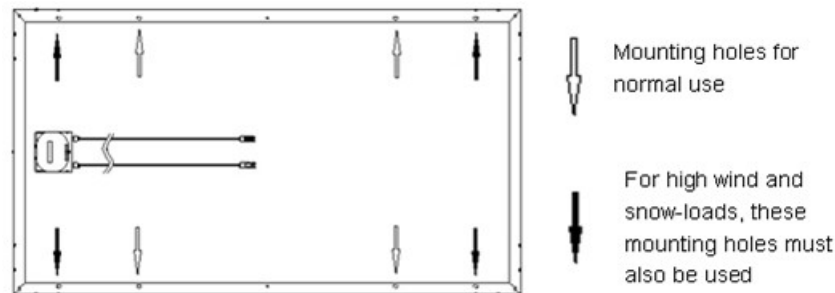

FIG 4 Mounting holes
- The frame of each module has 4 mounting holes used to secure. As shown in Figure 4, four mounting holes are needed in normal. If in the condition of sustaining higher load, eight mounting holes are needed.